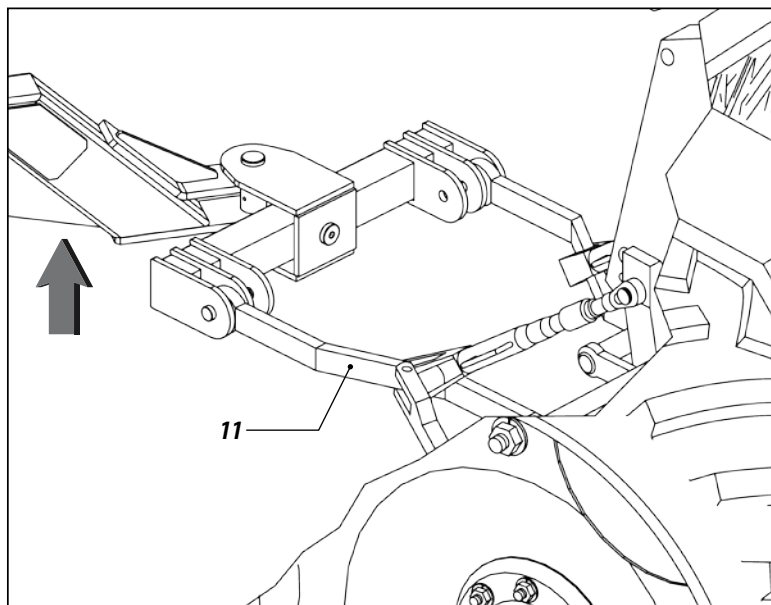

Figure 59
07 - Raise the hydraulic arms of the tractor (11). figure 59.